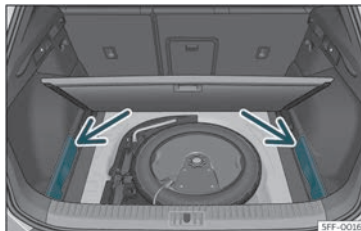

Fig. 111 In the luggage compartment: covers for storing the rear shelf.
- Remove the left and right covers»» Fig. 111.